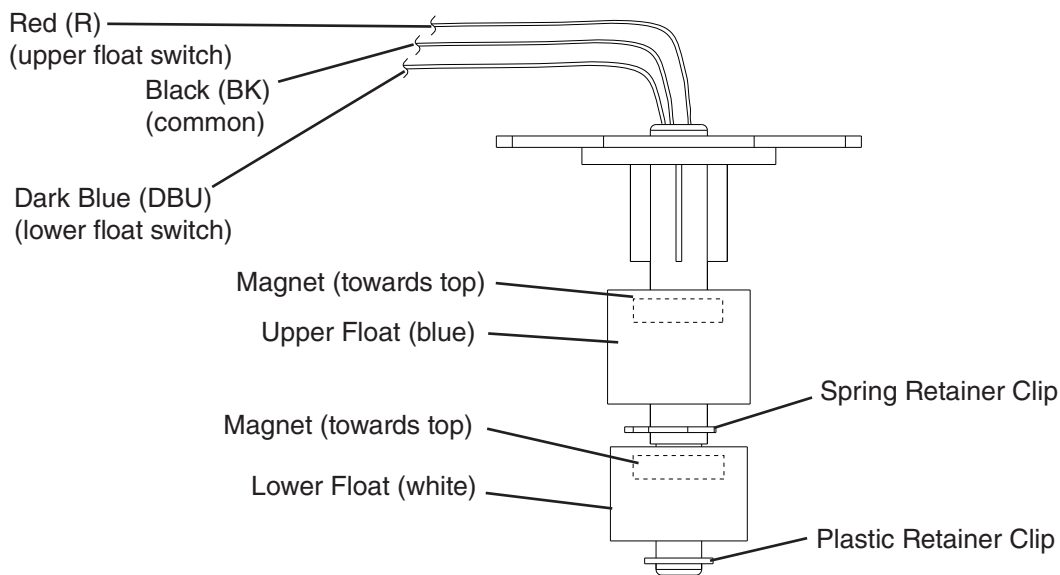

Fig. 6
- 5) While not necessary, the floats can be removed from the shaft during cleaning. If you remove them, note that the blue float is on top. The floats must be installed with the magnets inside them towards the top of the switch. See Fig. 6. Installing the floats upside down will affect the timing of FS operation.